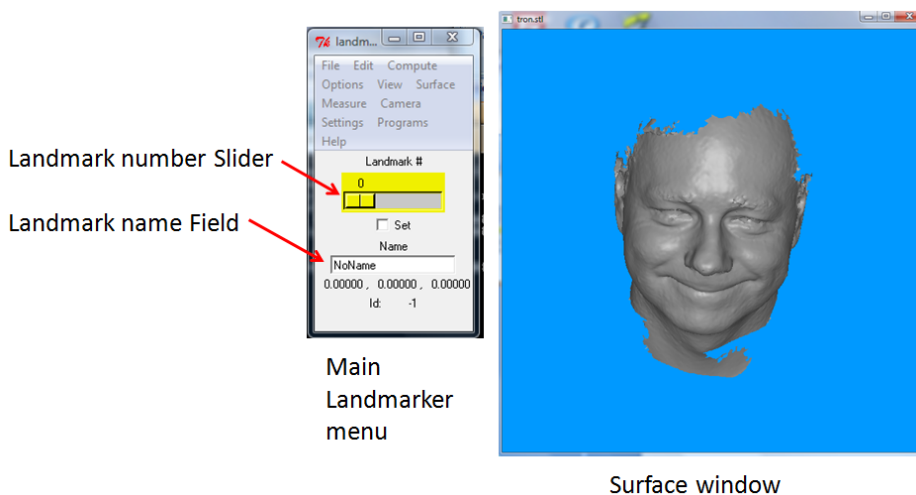
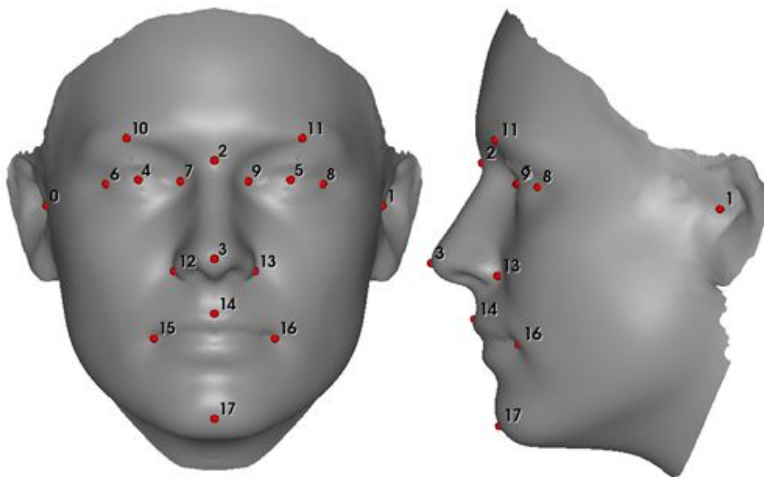
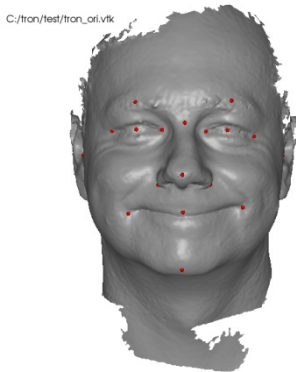

Figure 1. *tron.stl* surface file loaded in *landmarker*.
Figure 2. The “template” surface with 18 “template” landmarks. Note numbering of landmarks starting from 0.
Figure 4. The aligned surface and landmarks.
For this tutorial, choose the surface named *tron.stl* that is included in the *landmarker* distribution (Figure 1).
3) Set landmarks according to the landmarks shown in Figure 2 by following the 2 steps below. If you wish, you can inspect the landmarks in 3D by starting a second (simultaneous) *landmarker* application and load the surface file *face_template.vtk* and landmark file *face_template.log* (Use File->Load(New)->SurfaceFile followed by File->Load(New)->LandmarkFile)
Step 1. Load the sequence of landmark names: File->Load(New)->LandmarkNamesFromFile and select the file *face_template.log*. This will load only the names of the landmarks you are going to place. The names will appear in the Name field in the *landmarker* main menu (see Figure 2) as soon as you touch the ”Landmark #” slider (see Figure 1).
I. The surface (tron.stl in the example) is aligned in a least-squares manner to a fully symmetric landmark configuration (it can be found in the file face_template.log) and is shown in Figure 2). (The aligned surface will be written to disk as tron_ori.vtk and tron_ori.log.) An image of the aligned dataset is also saved: tron_ori_front.jpg (this is shown in Figure 4).
II. The symmetric template surface (seen in Figure 2) is deformed to the input surface (tron.stl) by use of thin-plate-splines (TPS) guided by the landmarks, followed by closest point deformation.